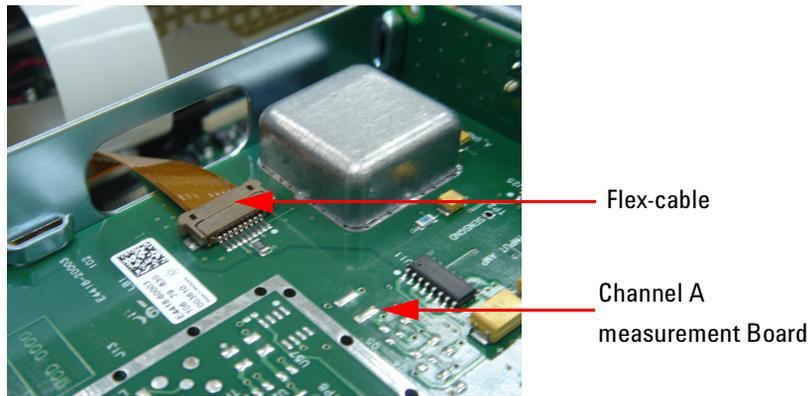

Figure 1-6 Connected Flex-Cable to Channel A measurement Board
- 11 Connect the sensor flex-cable (gold pad facing down) to the flex circuit connector on the Channel A measurement board (E4418- 60003). See Figure 1-4, Figure 1-5, and Figure 1-6 on page 5 and page 6.